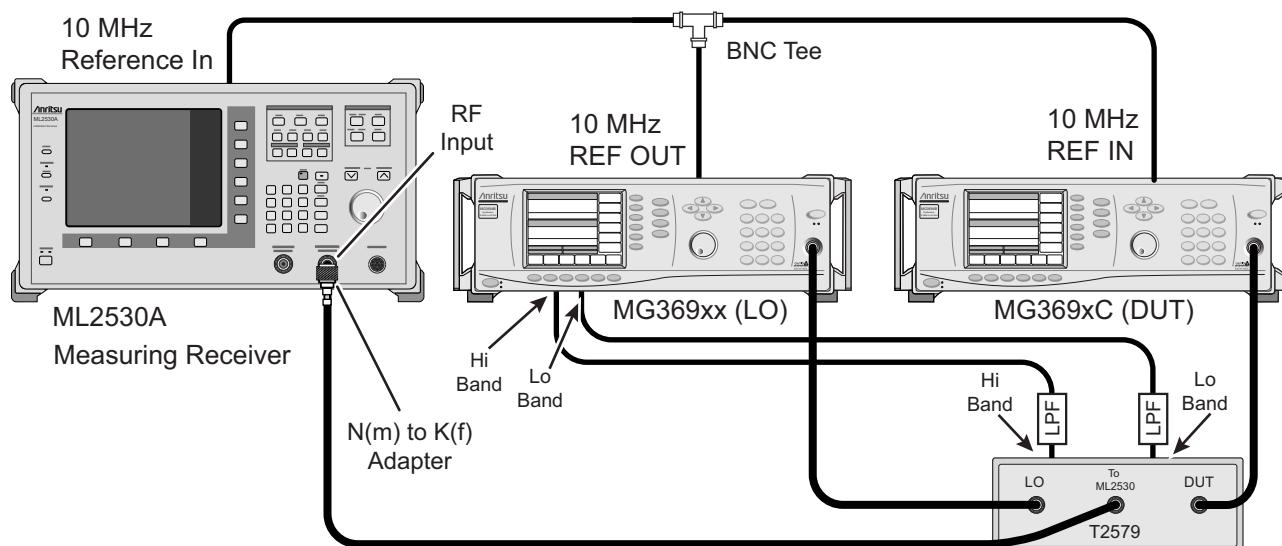

Figure 4-10. Equipment Setup for Power Level Accuracy and Flatness Tests Below –50 dBm Using T2579
5. If using the T2579 Mixer box, see Figure 4-10 and make the following connections: